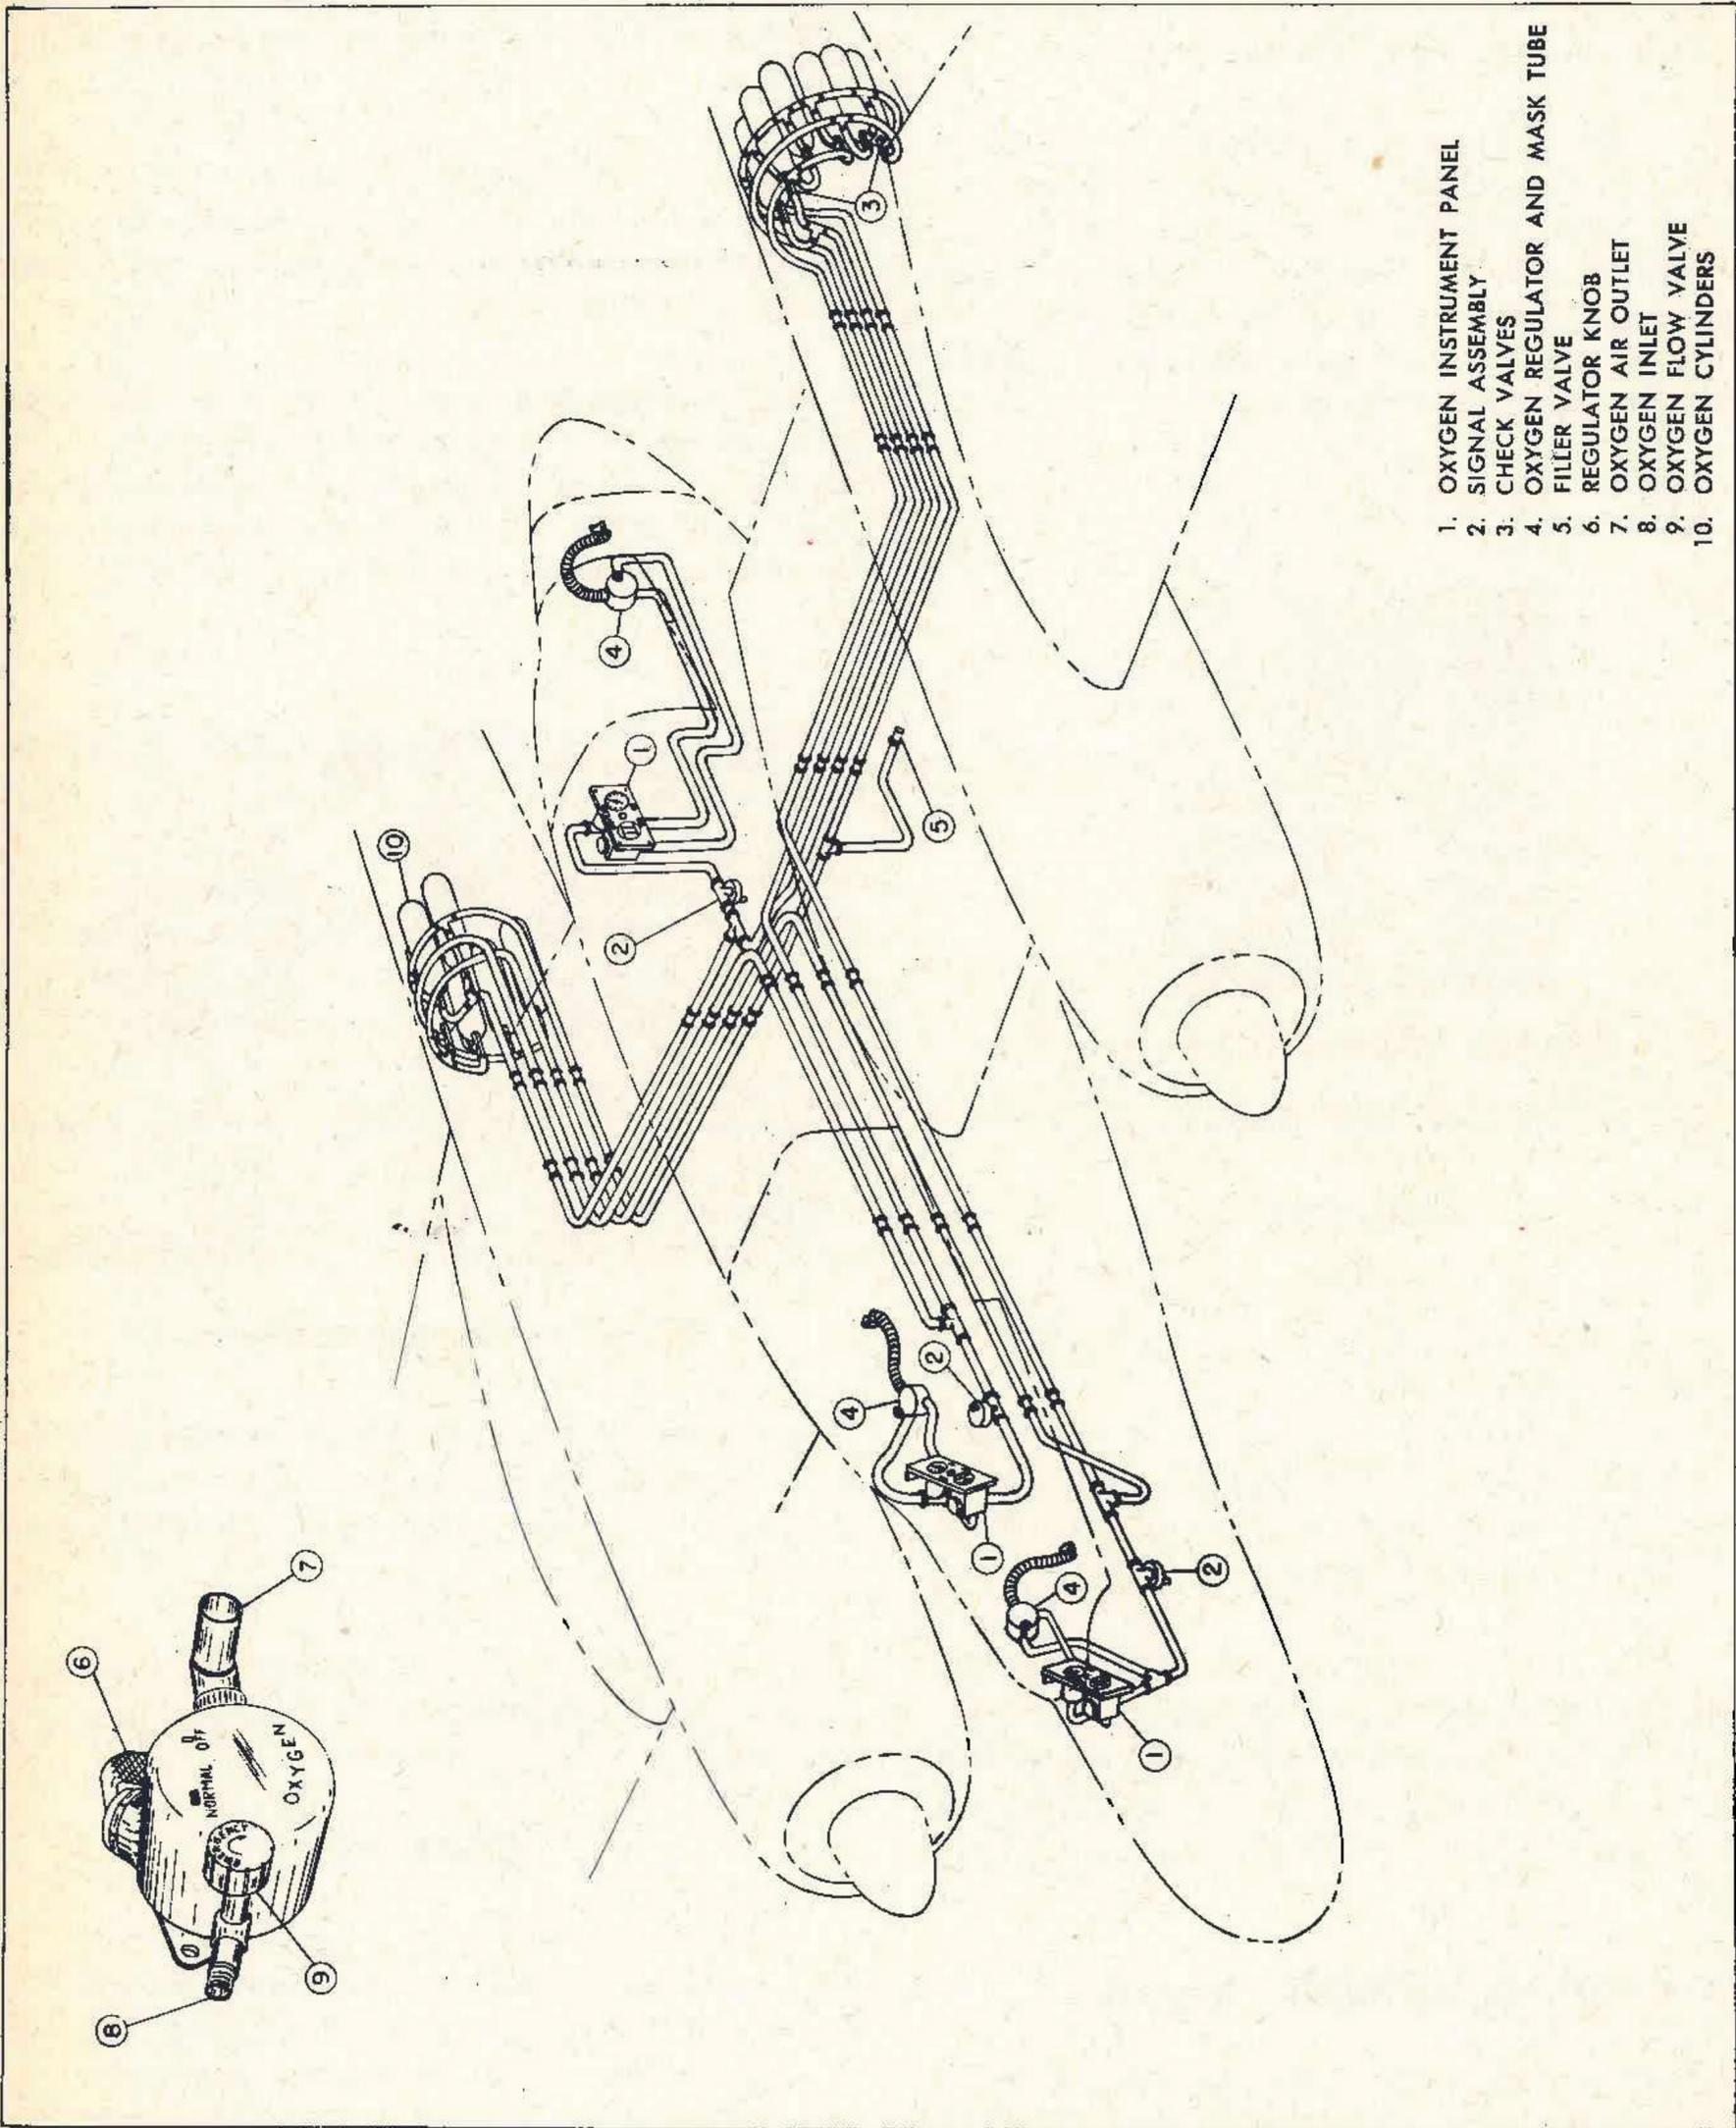

Figure 35 - Oxygen System
d. Three pressure gages (Type K-1) and three pressure signal and lamp assemblies (Type C-1) indicate a loss of pressure because of exhaustion of the system and signal the necessity of returning to a lower altitude at which oxygen will not be required. (Fig. 35.)